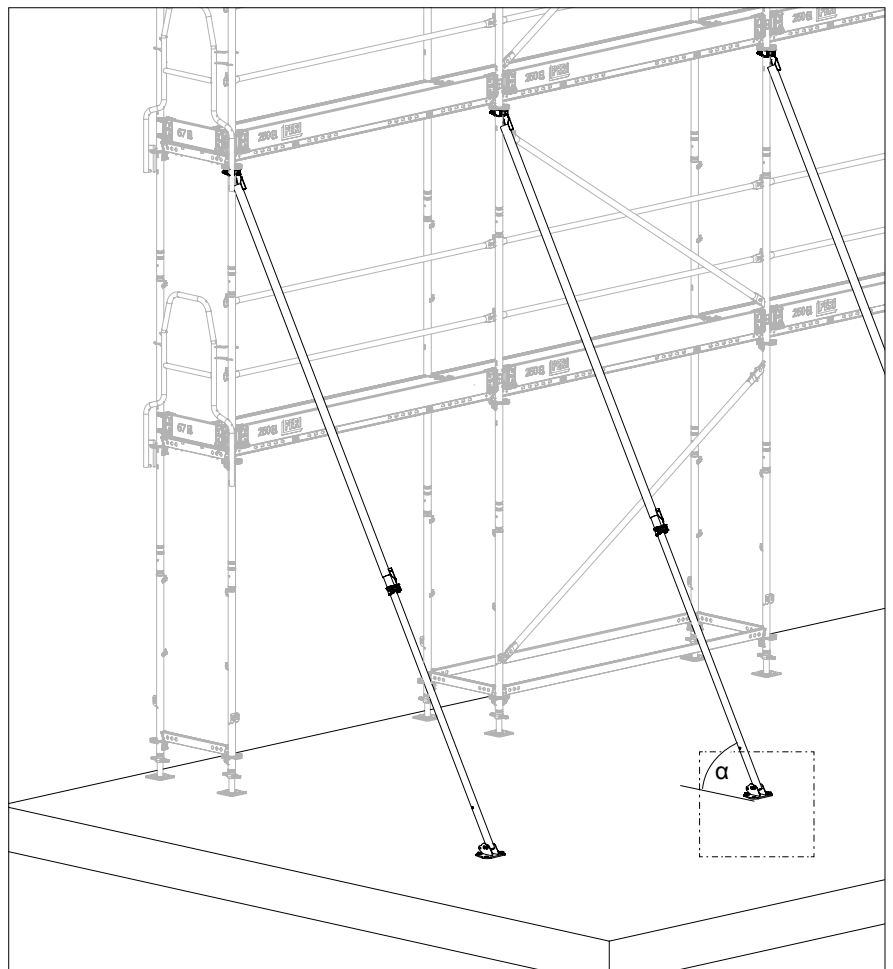

Fig. D7.01a
- The force application must be close to the horizontal ledger. (Fig. D7.01a)